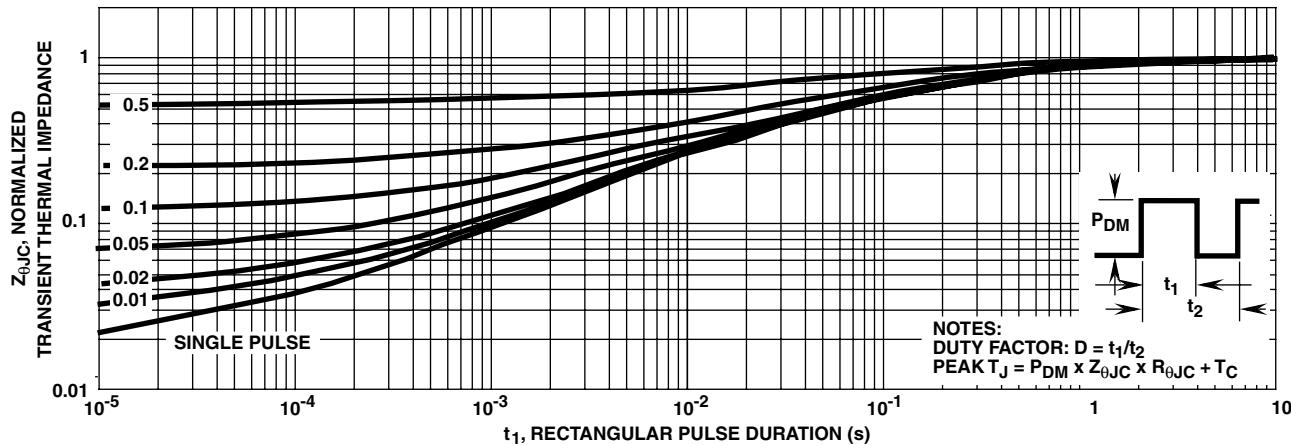

FIGURE 3. MAXIMUM TRANSIENT THERMAL IMPEDANCE
3. Repetitive Rating: Pulse width limited by Max junction temperature. See Transient Thermal Impedance curve (Figure 3).